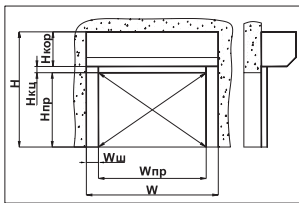

Fig. 2.1 Overlay mounting
2.1.7 Mounting type layouts are provided at Figures 2.1, 2.2, 2.3 and 2.4.